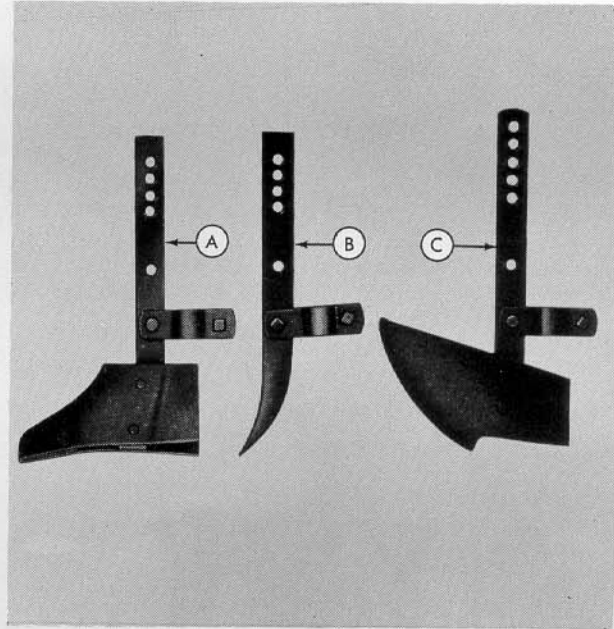

Figure 5
NOTE: The No. 1 chisel point type subsoilers (B), Figure 5, are provided with model 12-26 and 12-28 Lister Planters. The stub runner type (C), for use in trashy soil and the wing type (A), for use in stoney soil, are both available and may be ordered in place of the No. 1 subsoiler if desired.